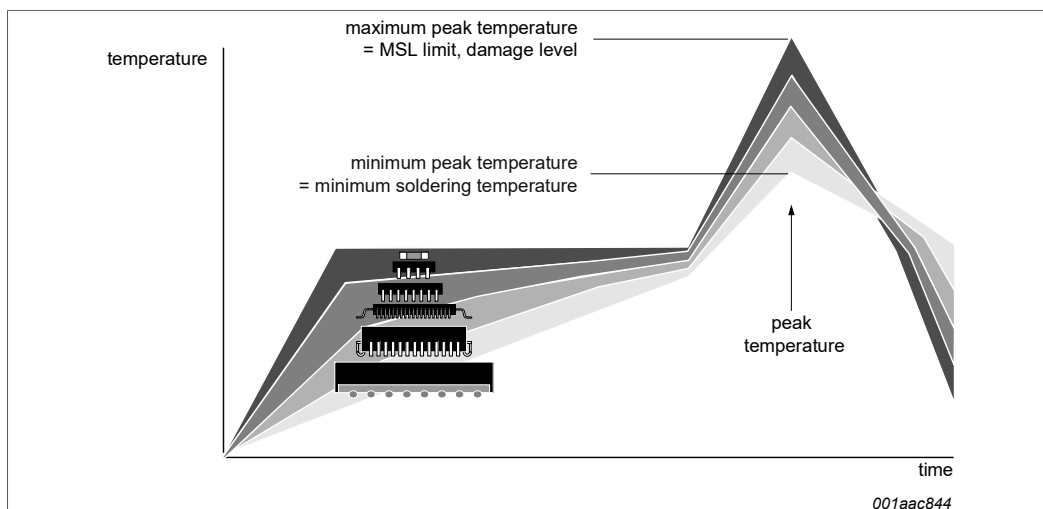

Figure 15. Temperature profiles for large and small components
- Lead-free versus SnPb soldering; note that a lead-free reflow process usually leads to higher minimum peak temperatures (see Figure 15) than a SnPb process, thus reducing the process window
Studies have shown that small packages reach higher temperatures during reflow soldering, see Figure 15.